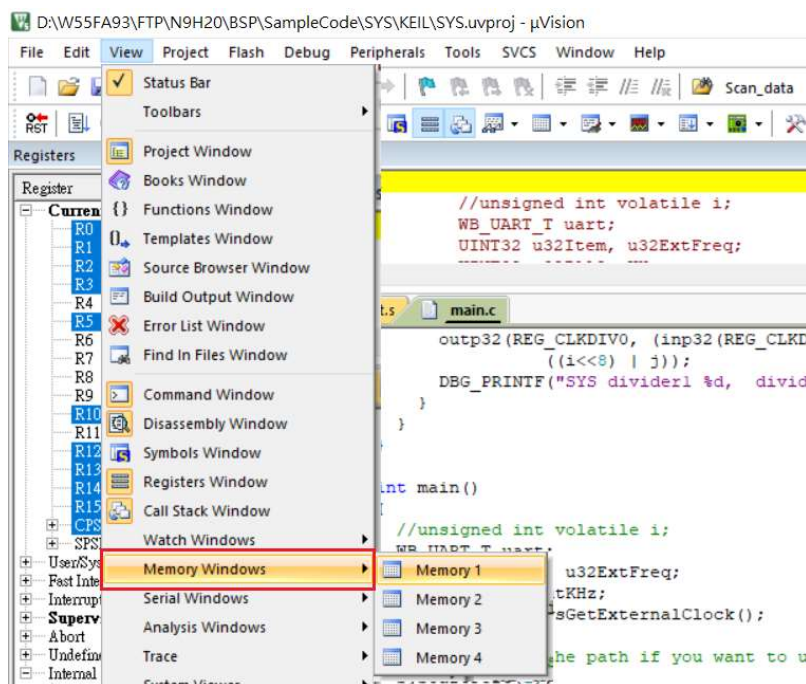
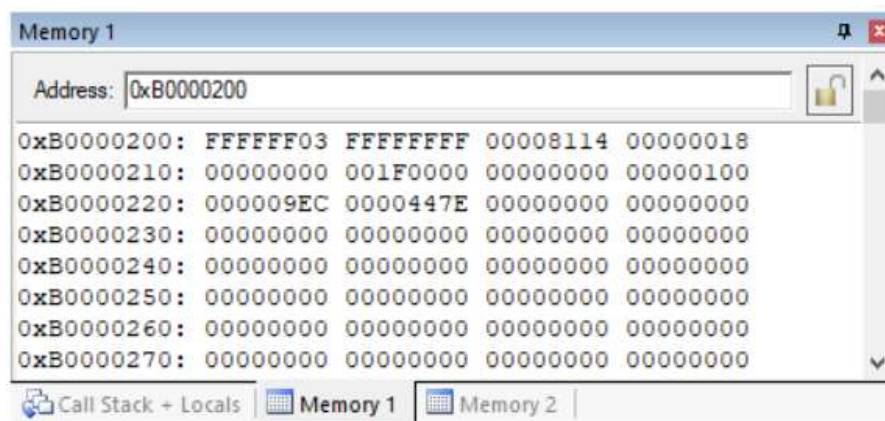

Figure 2-10 Memory Windows
Figure 2-11 Content of Clock Control Registers
3. The **Memory** window shows the contents of the connected target's memory areas and allows the memory to be edited. Several memory windows can be used at a time. For example, the addresses 0xB0000200 shows content of clock control registers. Memory window and memory content as shown in Figure 2-10 and Figure 2-11 respectively.